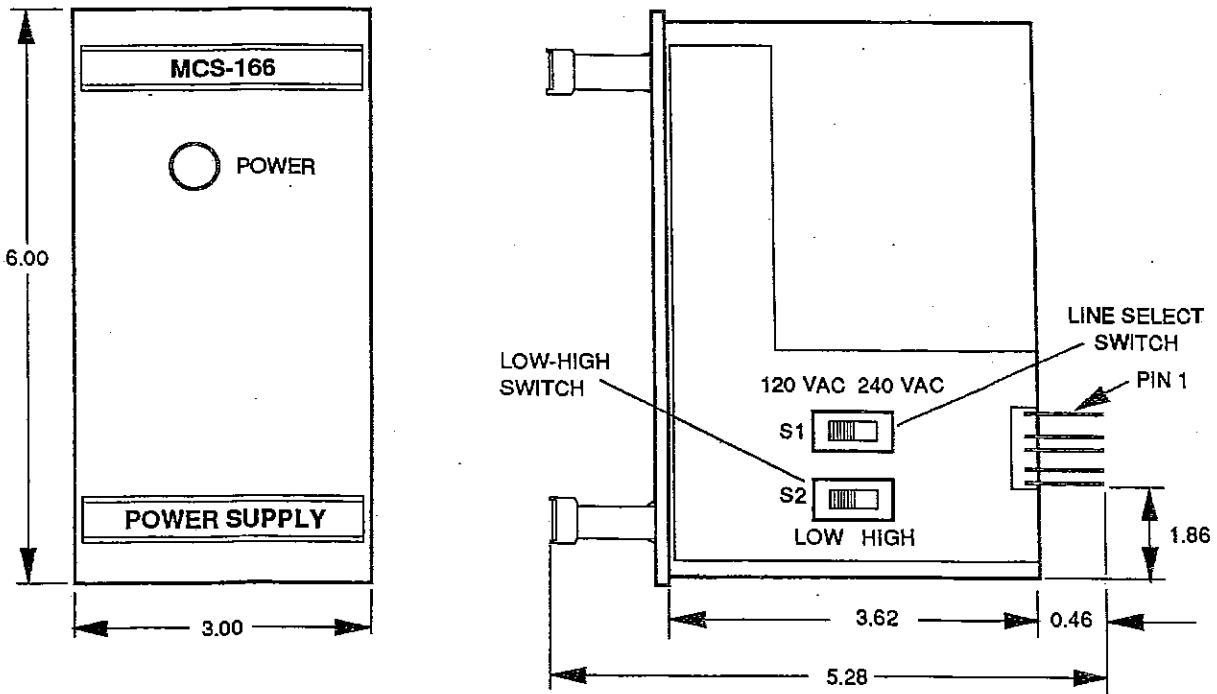

Figure 13 Control Adjustment Locations, MCS-166/MCS-203
- 7. Set the internal adjustments per Figure 13, page 16, as follows:
- a. Proportional gain, "R32" fully clockwise (CW).